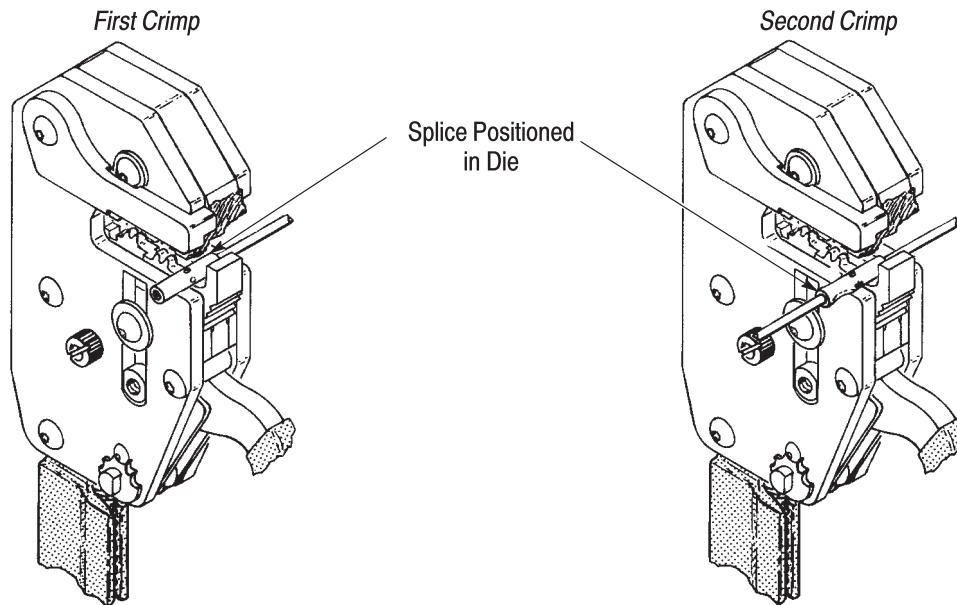

Figure 3
6. To crimp other half or splice, remove it and reposition uncrimped half in dies as shown in Figure 3. Follow the same procedures used to crimp first half of splice. If splice cannot be turned, turn tool around.